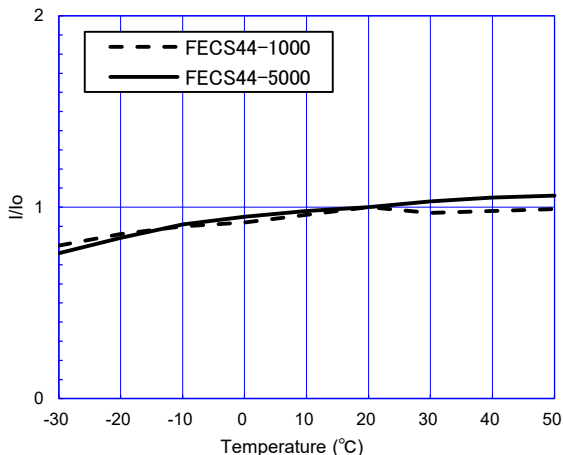

Fig. 7 - Temperature dependency (I₀=sensor output current at 20°C)
Figure 7 shows the sensitivity change with temperature measured using the recommended basic measuring circuit. The Y-axis shows the ration of output current in 1000ppm of NH₃ at various temperatures (I) to the output current in 1000ppm of NH₃ at 20°C. The sensitivity gradually decreases as the temperature decreases. Therefore, the temperature dependency of ammonia sensitivity of FECS44-1000/-5000 can be compensated by a NTC thermistor.